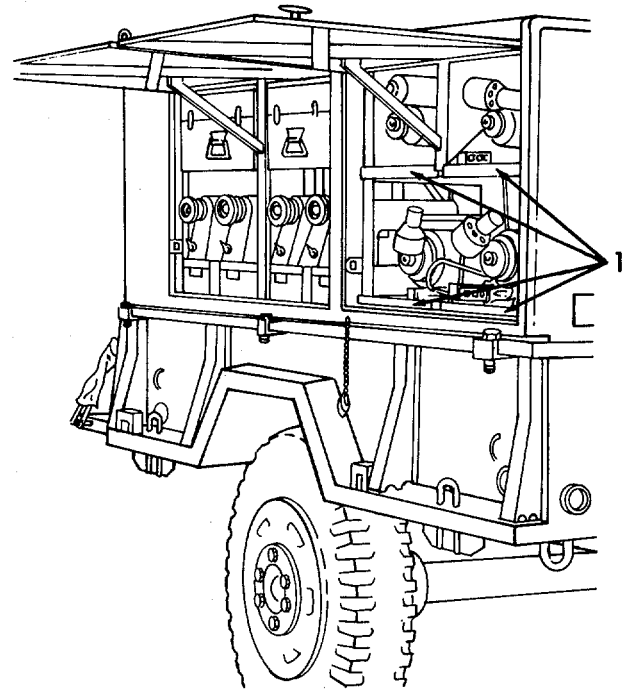

Figure 2-6. Table Top, Removal.
d. *Sewing Machine Table Assemblies, Folding Stands, and Storage Boxes (Refer to Figures 2-6 through 2-8).*
(1) Refer to Figure 2-6. Unscrew the locking clamps and then slide the eight sewing machine table (top) assemblies (1) from their slide racks and out of the cabinet.
(2) Set table top assemblies on the folding tables.